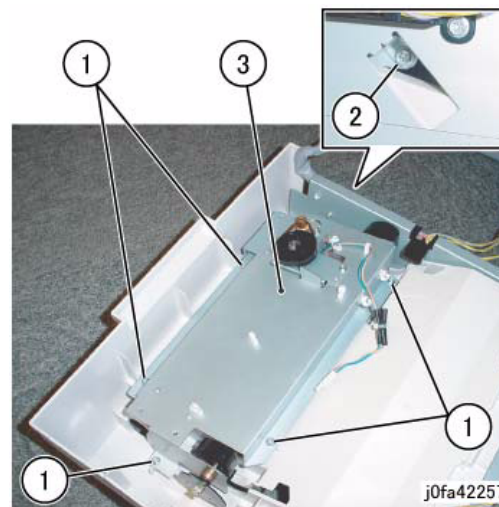

Figure 6 Removing the Stacker Assembly (j0fa42257)
10. Remove the Stacker Assembly. (Figure 6)